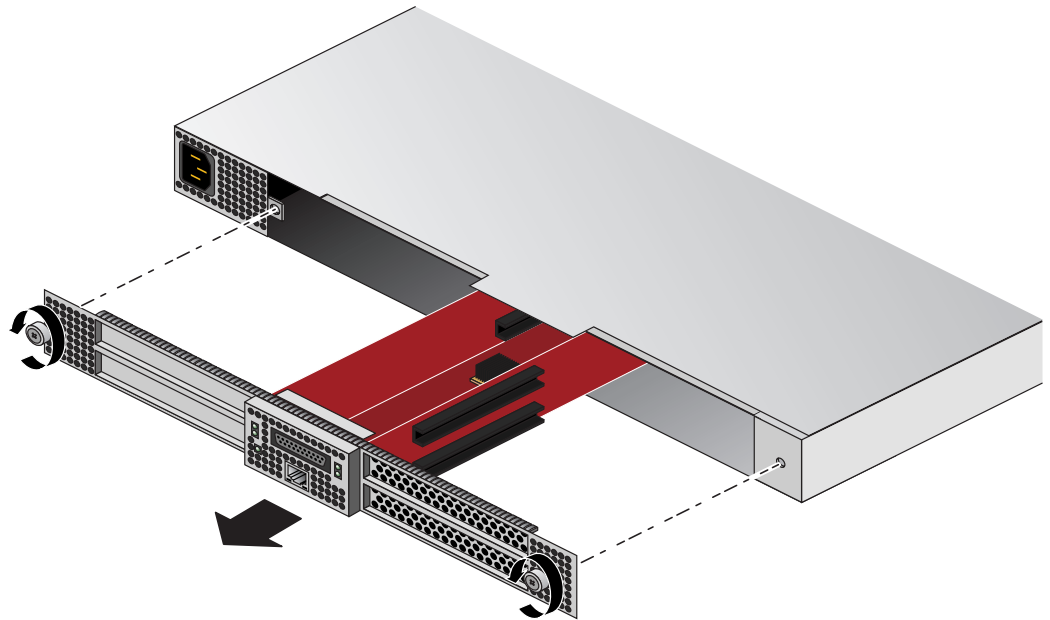

Figure 5-3 Card Slot Locations in “PCIe Carriage”
3. Pull the T-shaped board “carriage” out of the chassis until the slots are clear of the unit, see Figure 5-3 on page 63 for an example.